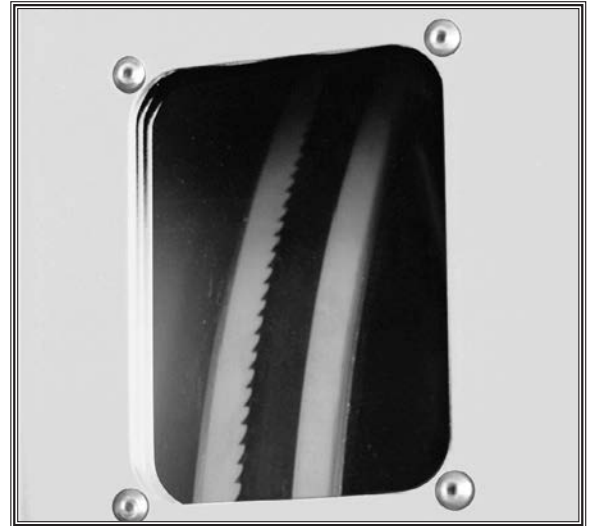

Figure 52. Blade tracking window.
2. Observe the blade tracking path through the clear window on the right edge of the bandsaw, as shown in **Figure 52**.